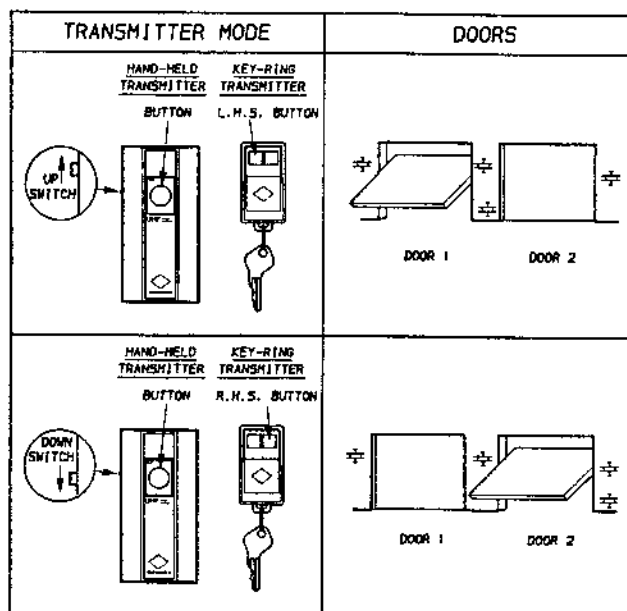

Figure 18
- When setting the code in the second garage door opener, move the side switch on the transmitter to the down position (Figure 18) and follow the procedure from Step 18-2) above. To activate the first garage door opener with the transmitter, the side switch must be in the up position. To activate the second garage door opener, the side switch must be in the down position (Figure 18).